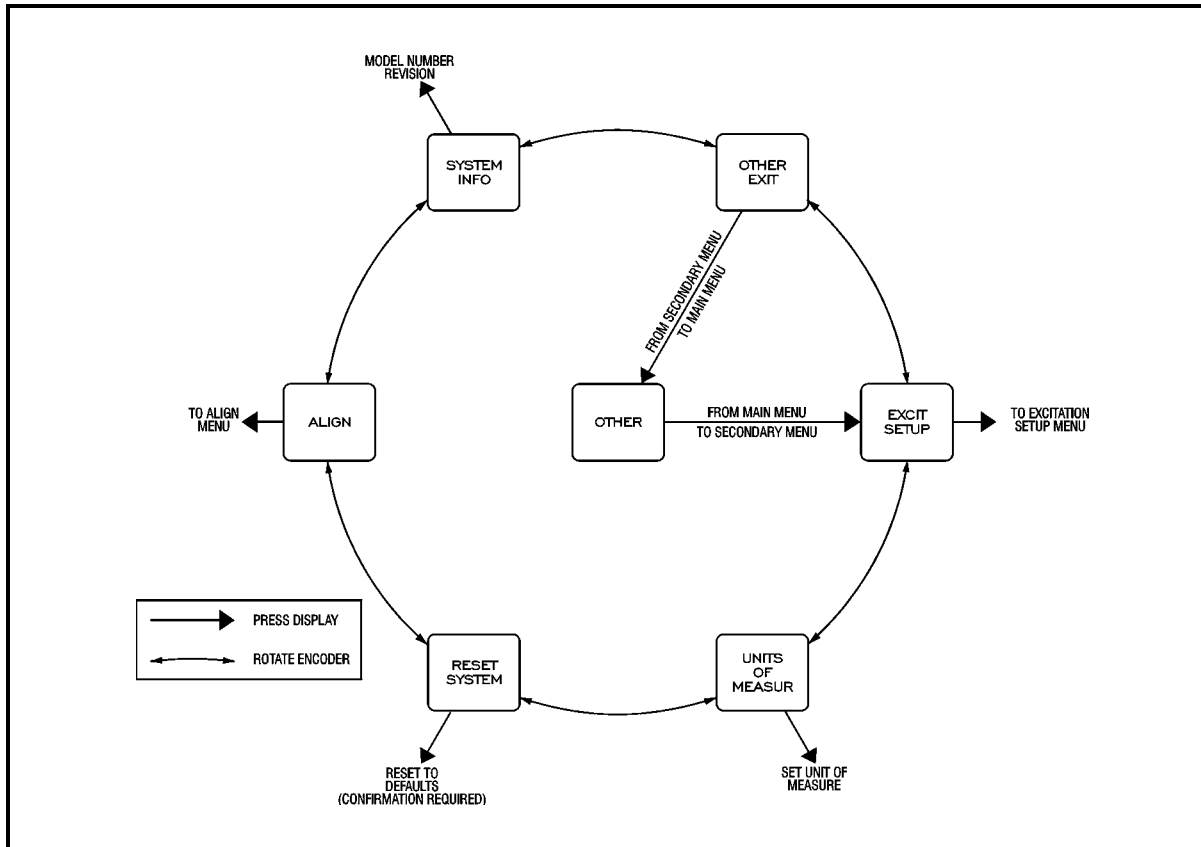

Figure 3-3 Secondary Menu
**SECONDARY MENU (Figure 3-3)**